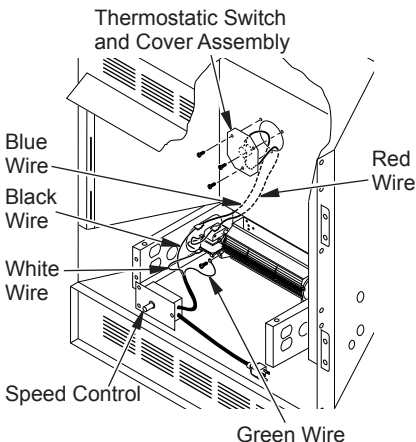

Figure 18 - Installing Switch and Cover Assembly and Speed Control
2. Using screw provided, attach green ground wire from speed control cord to blower housing. Tighten screw securely (see Figure 18).
4. Remove the three screws (do not discard) and cover plate from center of firebox wrapper rear wall. Discard this cover plate (see Figure 18).
5. Mount the supplied thermostatic switch and cover assembly into firebox wrapper rear wall. Do this by feeding terminal ends of wire harness into the hole. Allow wires to fall to bottom of firebox cavity (see Figure 18).
6. Using three screws from step 7, attach switch and cover assembly to firebox wrapper rear wall. Tighten screws firmly (see Figure 18).
7. Firmly attach red wire from the thermostatic switch and cover assembly to either of the terminals on the blower motor (see Figure 18).
8. Firmly attach black wire from speed control cord to blue wire from thermostatic switch and cover assembly (see Figure 18).
9. Firmly attach white wire from speed control cord to remaining terminal on blower motor (see Figure 18).